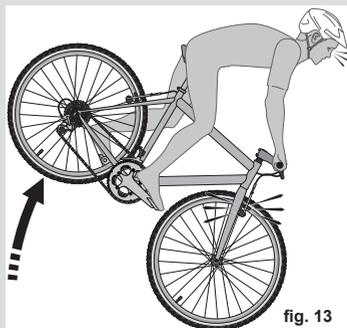

fig. 13
**Applying brakes too hard or too suddenly can lock up a wheel, which could cause you to lose control and fall (see fig. 13). Sudden or excessive application of the front brake may pitch the rider over the handlebars, which may result in serious injury or death.**